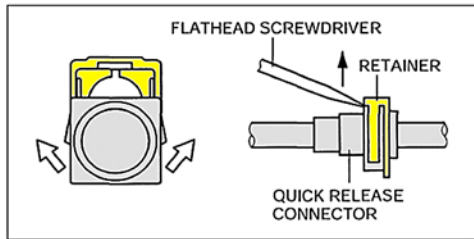
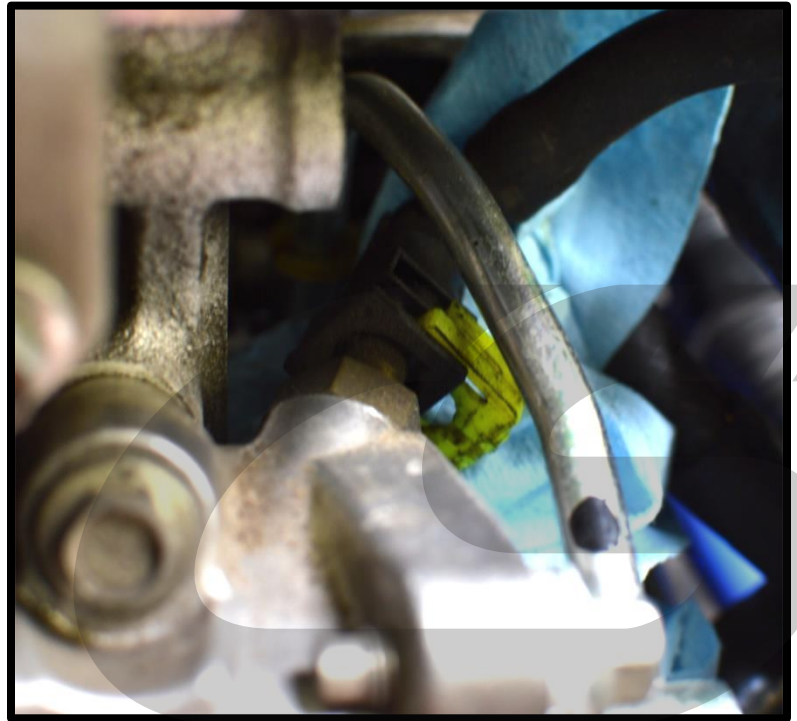

Figure 6e
Figure 6d
- c) Remove the fuel return line from the fuel rail (shown in Figure 6d). Use a flathead screwdriver to open the clip (shown in Figure 6e). Place rag under the connection point to absorb excess fuel, then remove the fuel return line.